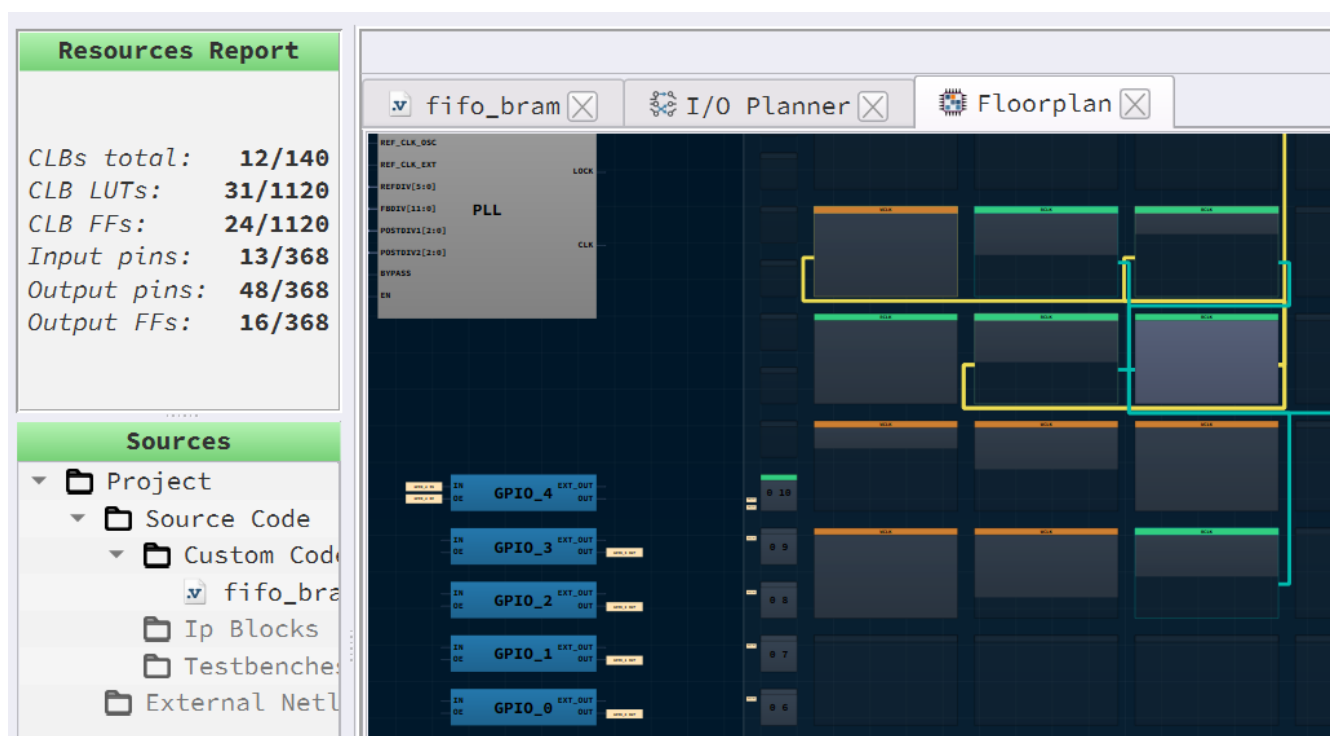

Figure 4 : Floorplan
From the below Figure 4, we can see a part of the floorplan for this application note. Also, on the left corner of the figure we can see a mini resource needed list.
6. Now click on the Floorplan tab and see the CLB utilization. Press the Ctrl and the mouse wheel to zoom-in. ( Figure 4 ). Confirm that the IOs selected in the IO Planner ( Figure 6 ) are shown in the floorplan. The IO Planner has been set in such a way that the board uses an external clock instead of the OSC clock on-board also that we use only BRAM\_0 for this application and disable the other BRAMs on board.